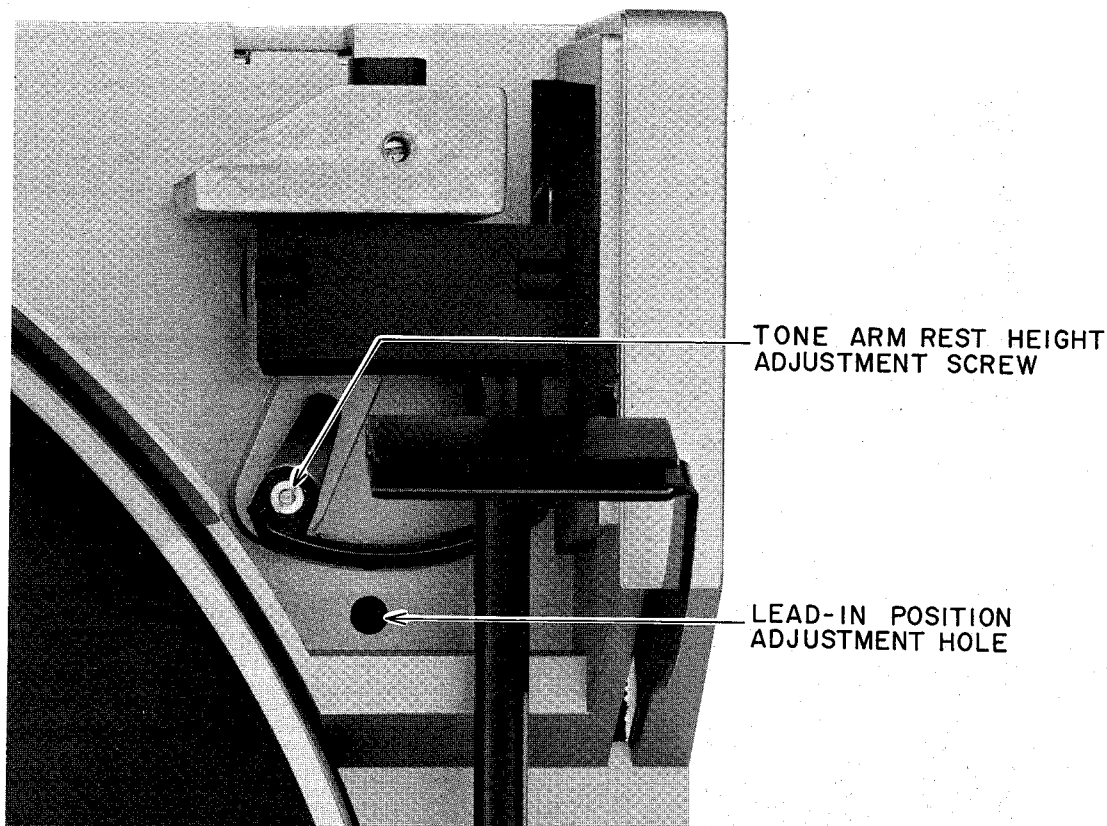

Fig. 5-1 Tone Arm Adjustment Points
- Adjust the lead-in position adjustment screw (see Fig. 5-1), until the stylus descends at the lead-in groove of a record.
- With tone arm in the up-position, the stylus should be 4 to 7 mm above the surface of the record. Turn the adjustment screw (see Fig. 5-1) to change the height.